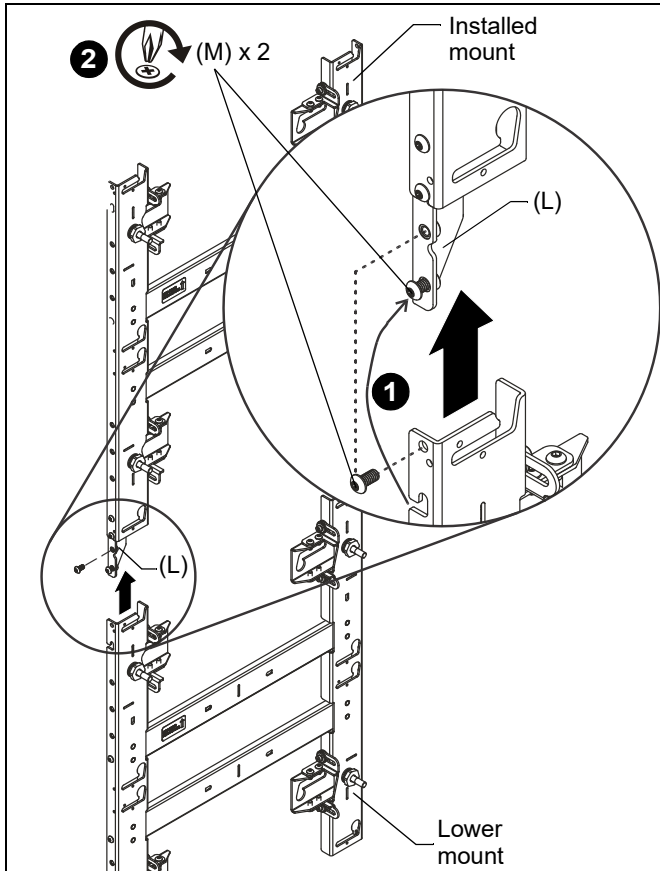

Figure 21
1. Hang the lower mount on the partially installed Phillips head screws (M) in the vertical connectors (L). (See Figure 21)
2. Tighten both lower screws (M) on both vertical connectors (L). (See Figure 21)